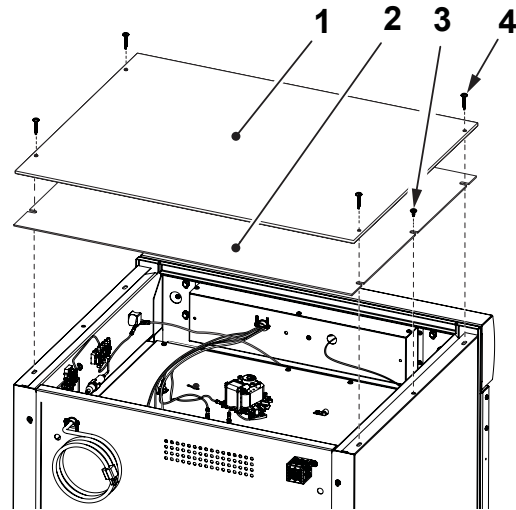

Figure 4: Remove Top Covers
1. Remove four 8 x 1-5/8" self tapping screws and lift off the top outer panel (Figure 4).
2. Remove two 8 x 1/2" self tapping screws and lift off the top inner panel (Figure 4).
3. Loosen the 3/8" straight-through connector (Figure 4, Item 1) and disconnect wiring from terminal board (Figure 4, Item 5, and Figure 5, Items 2, 3, 4).
4. Remove existing power cable (Figure 4, Items 2, 3, 4) from terminal block and pull out of warming cabinet through 3/8" connector (Figure 5, Item 1).
9. Reinstall the inside top panel using two 8 x 1/2" self-tapping screws (Figure 4).
10. Reinstall the outside top panel using four 8 x 1-5/8" self-tapping screws (Figure 4).